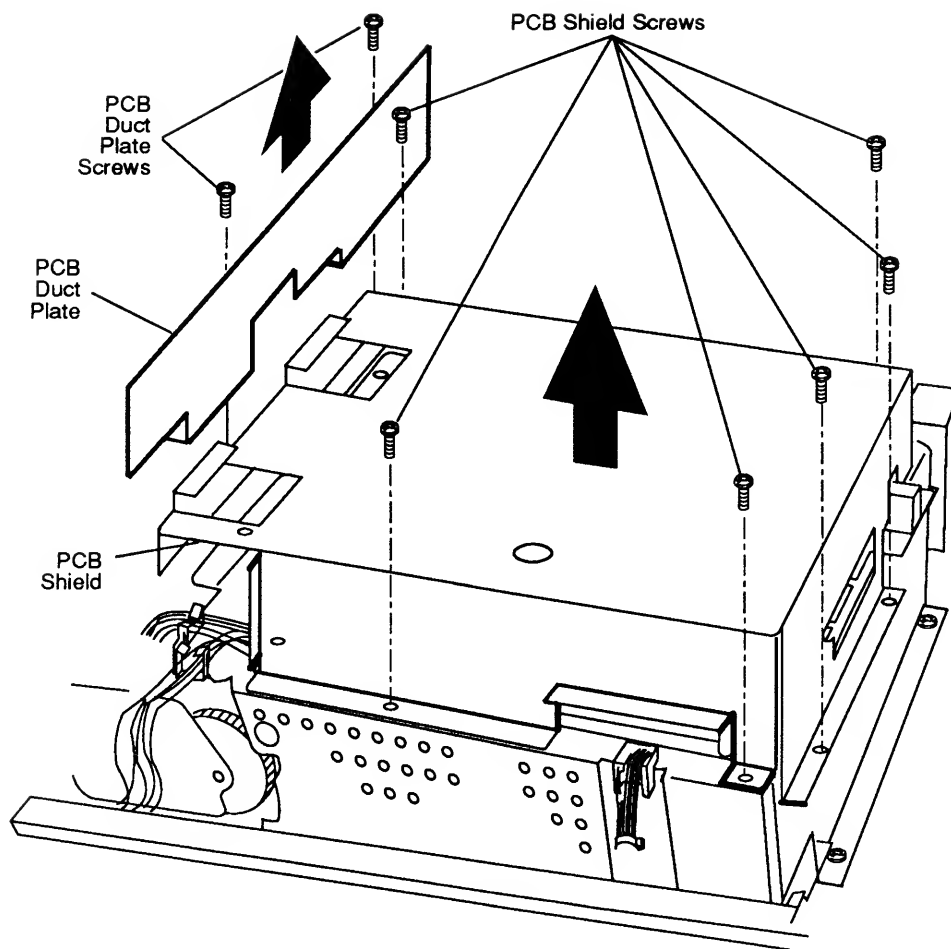

Figure 2-16 PCB Shield (LaserWriter LS/L)
2. Remove the two screws that secure the PCB duct plate (**Figure 2-16**). Lift the PCB duct plate out of the printer.
3. Remove the six screws that secure the PCB shield to the printer chassis (**Figure 2-16**). Lift the PCB shield out of the printer.
2. Replace the six screws that secure the PCB shield to the printer chassis (**Figure 2-16**).
3. Place the PCB duct plate into position and replace the two screws (**Figure 2-16**).